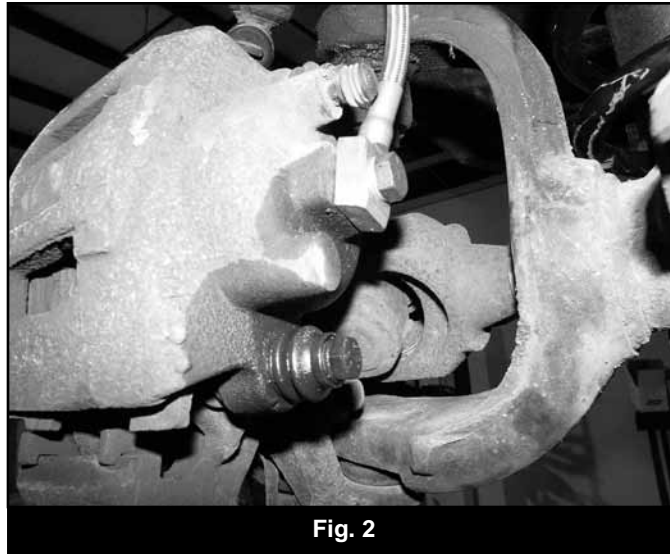

Fig. 2
18. Install the caliper side with the provided crush washers. Note: One washer is required on EACH side of the fitting. Brake line must face up after installation. (Fig 2) Torque bolt to 20 ft-lbs.